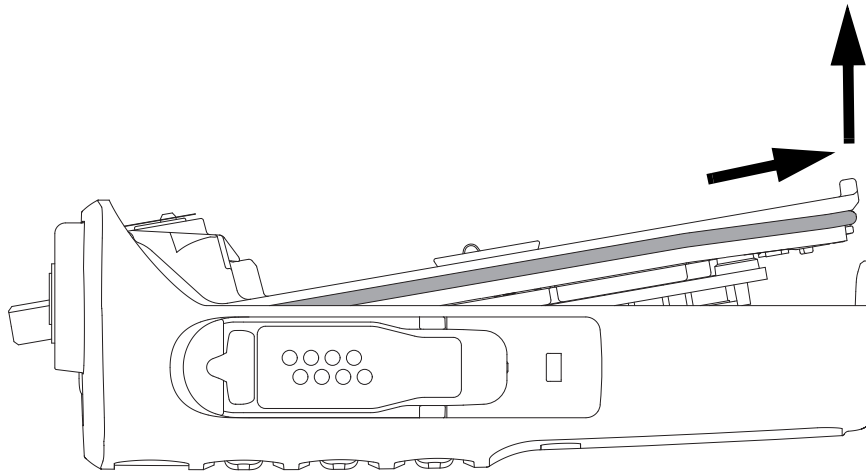

Figure 5-4. Chassis removal
- c. Slide the chassis out slowly from the housing as shown in Figure 5-4.